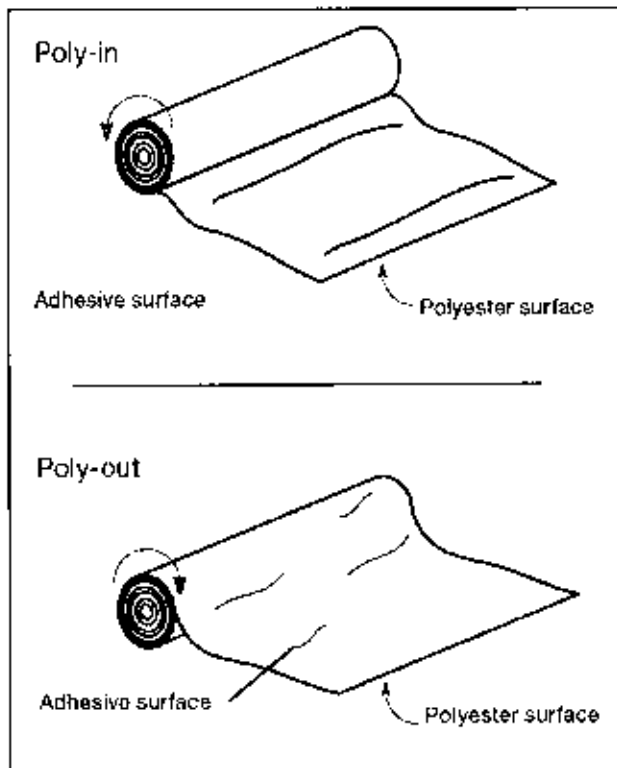

Fig. 6-3. Poly-In and Poly-Out Films
2. Slide the new roll on to the shaft and core adaptors, referring to Fig. 6-3, to determine how the film unwinds from the roll. Use the set screws in the core adaptors to move the adaptors if needed. The grippers on the core adaptors should be pointing in the opposite direction that the film unwinds from the roll.